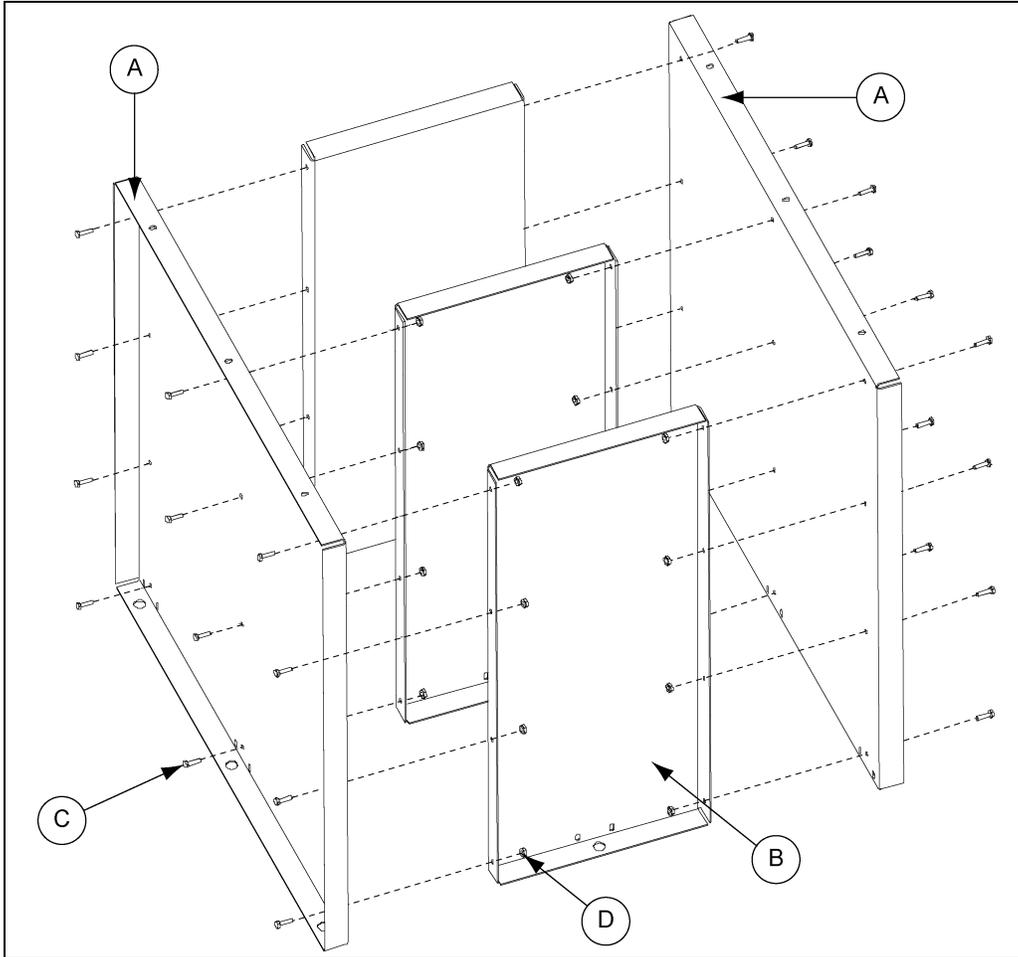

Figure 6K
1. Attach three (3) fan support middles (B) to fan support sides (A) using twelve (12) 5/16" x 3/4" flange bolt (C) and 5/16" flange nut (D) per each side. (See Figure 6K.)